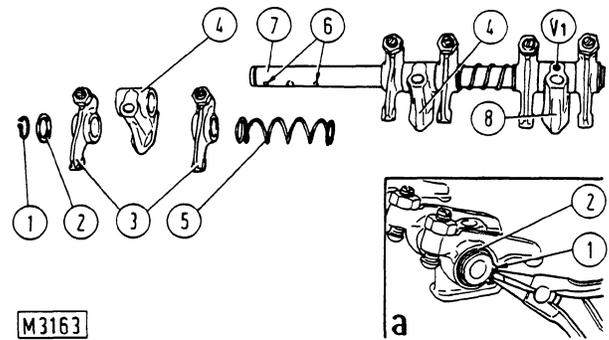

Fig. 21 - Removing (installing) retaining clip (a) and dismantled parts of a rocker arm shaft.
Rocker arms are hinged on two separate shafts. To remove end bearing (8, fig. 21) from shafts remove screw (V_1).
Reinstall rocker arm shafts arranging components as shown in fig. 21 and considering the following :
- make sure holes (6, fig.21) and relevant oil galleries are not clogged ;
- install supports (8) on the shaft ends and secure them by means of screws (V₁).